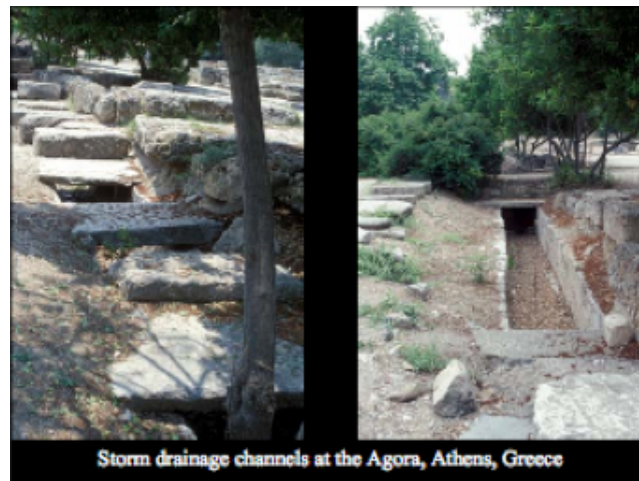

Figure 1: Photograph of ancient storm drain
5. Figure 1 is a photograph of a